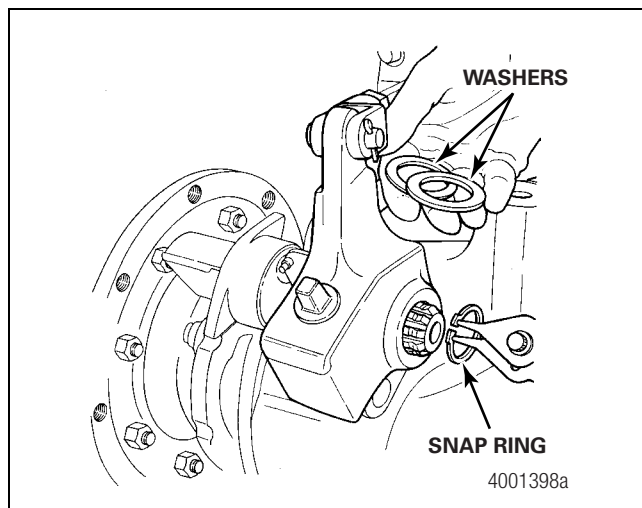

Figure 5.23
7. Install the adjusting lever onto the camshaft. Install the washers and the snap ring. Figure 5.23.